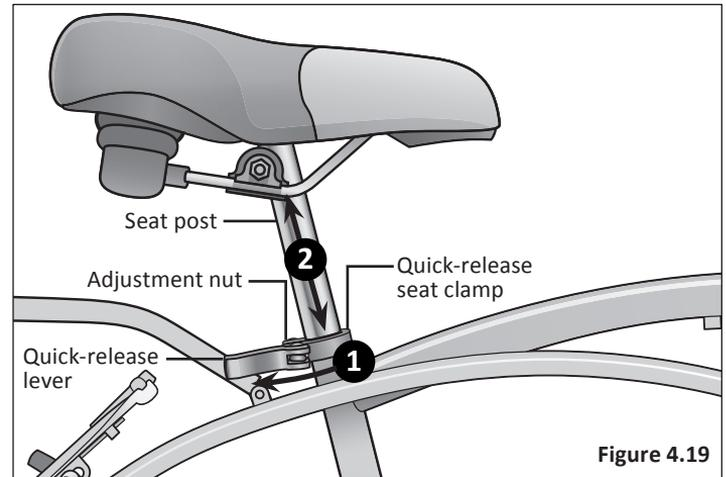

Figure 4.19
- 1 Unlock the quick-release lever. **Figure 4.19**